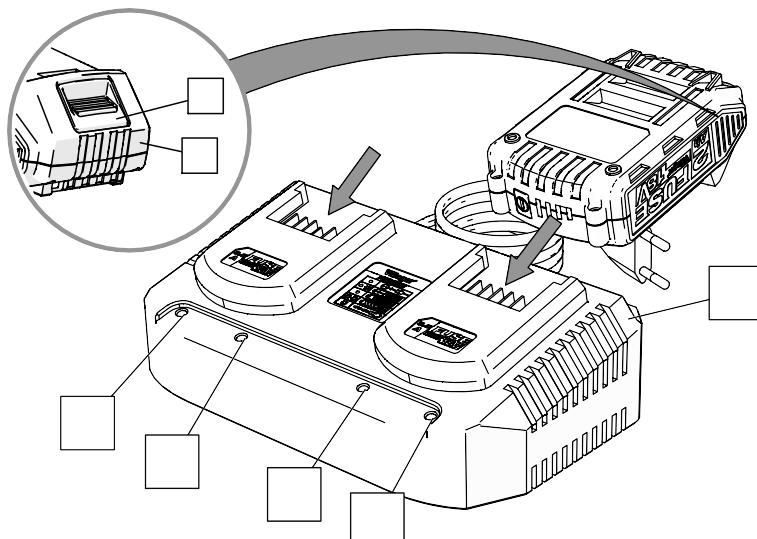

Fig. 1
### BATTERY PACK CHARGING FIGS. 1
To charge the battery pack (A), it must first be FIG.1 removed from the tool.
- Press the battery release button (B) and gently slide the battery pack off (Fig.1).
- Plug the battery charger (4) unit into a 230V/AC supply socket.
- Both the red LED's (1) will illuminate to show the charger has power.
- After a few seconds delay, one of the green LED's (2) (on the side battery is placed) will also illuminate to show that charging has begun and continue throughout charging.